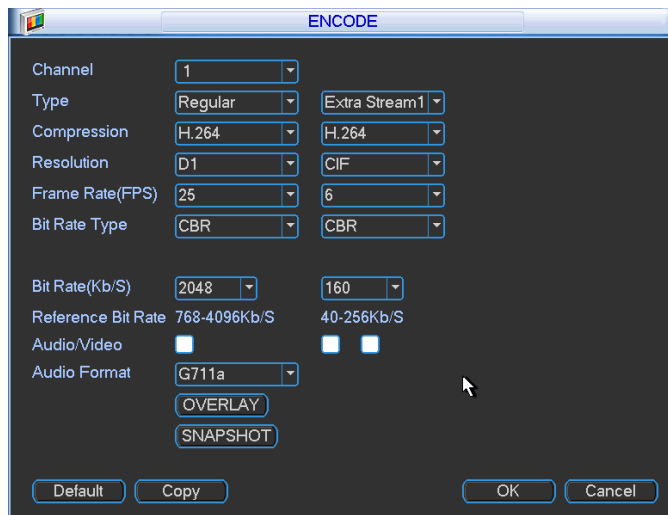
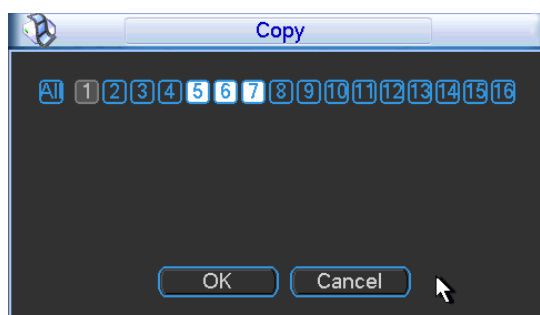

Figure 6-23
Figure 6-25
Encode setting includes the following items. See Figure 6-23.
- ✧ Copy: After you complete the setup, you can click Copy button to copy current setup to other channel(s). You can see an interface is shown as in Figure 6-25. You can see current channel number is grey. Please check the number to select the channel or you can check the
box ALL. Please click the OK button in Figure 6-25 and Figure 6-23 respectively to complete the setup. Please note, once you check the All box, you set same encode setup for all channels. Audio/video enable box, overlay button and the copy button is shield. See Figure 6-26.